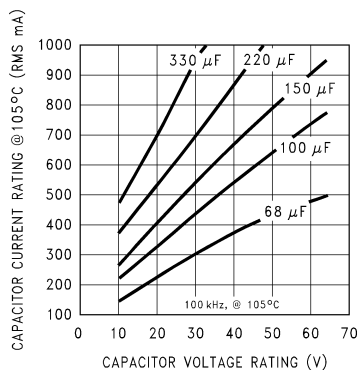

Figure 28. RMS Current Ratings for Low ESR Electrolytic Capacitors (Typical)
5. Input Capacitor (C_{IN}) A low ESR aluminum or tantalum bypass capacitor is needed between the input pin and ground to prevent large voltage transients from appearing at the input. This capacitor should be located close to the IC using short leads. In addition, the RMS current rating of the input capacitor should be selected to be at least $\frac{1}{2}$ the DC load current. The capacitor manufacturer data sheet must be checked to assure that this current rating is not exceeded. The curves shown in Figure 28 show typical RMS current ratings for several different aluminum electrolytic capacitor values. A parallel connection of two or more capacitors may be required to increase the total minimum RMS current rating to suit the application requirements. For an aluminum electrolytic capacitor, the voltage rating should be at least 1.25 times the maximum input voltage. Caution must be exercised if solid tantalum capacitors are used. The tantalum capacitor voltage rating should be twice the maximum input voltage. The tables in Table 7 show the recommended application voltage for AVX TPS and Sprague 594D tantalum capacitors. It is also recommended that they be surge current tested by the manufacturer. The TPS series available from AVX, and the 593D and 594D series from Sprague are all surge current tested. Another approach to minimize the surge current stresses on the input capacitor is to add a small inductor in series with the input supply line. Use caution when using ceramic capacitors for input bypassing, because it may cause severe ringing at the V_{IN} pin.	5. Input Capacitor (C_{IN}) The important parameters for the input capacitor are the input voltage rating and the RMS current rating. With a maximum input voltage of 28V, an aluminum electrolytic capacitor with a voltage rating of at least 35V ($1.25 \times V_{IN}$) would be needed. The RMS current rating requirement for the input capacitor in a buck regulator is approximately $\frac{1}{2}$ the DC load current. In this example, with a 1A load, a capacitor with a RMS current rating of at least 500 mA is needed. The curves shown in Figure 28 can be used to select an appropriate input capacitor. From the curves, locate the 35V line and note which capacitor values have RMS current ratings greater than 500 mA. For a through hole design, a 330 μF/35V electrolytic capacitor (Panasonic HFQ series, Nichicon PL, Sanyo MV-GX series or equivalent) would be adequate. Other types or other manufacturers' capacitors can be used provided the RMS ripple current ratings are adequate. Additionally, for a complete surface mount design, electrolytic capacitors such as the Sanyo CV-C or CV-BS and the Nichicon WF or UR and the NIC Components NACZ series could be considered. For surface mount designs, solid tantalum capacitors can be used, but caution must be exercised with regard to the capacitor surge current rating and voltage rating. In this example, checking Table 7, and the Sprague 594D series datasheet, a Sprague 594D 15 μF, 50V capacitor is adequate.